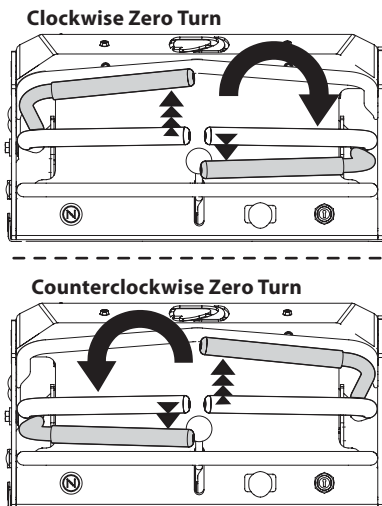

Figure 13
2. To turn clockwise, move the left drive control lever forward while simultaneously moving the right drive control lever rearward. See Figure 13.
3. To turn counterclockwise, move the right drive control lever forward while simultaneously moving the left drive control lever rearward. See Figure 13.